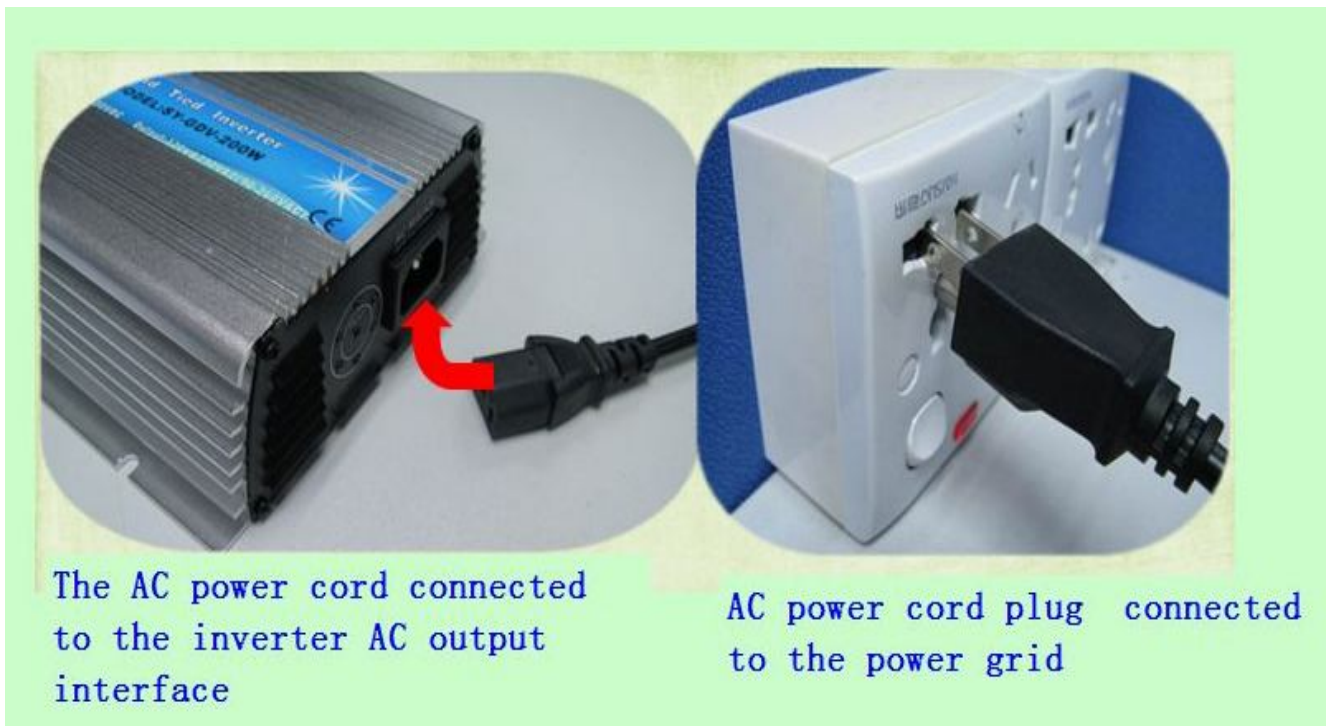

Figure 2
3、 AC socket: Connect to the mains. Put the side of the AC cord which has holes into the inverter with 3 foot outlet and the other side of the AC cord to home 3PIN AC outlet. Show in Figure 2